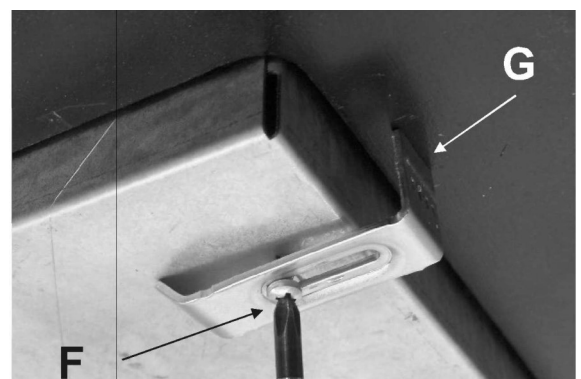

FIG. 11
- Position the hob in the hole in the unit and fasten it in place using the appropriate screws "F" and the fastening hooks "G" (fig. 11).